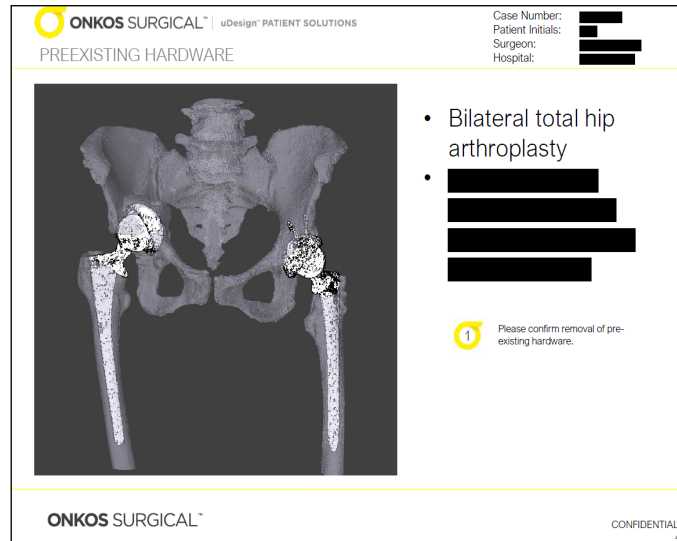

Figure 1: Example in situ hardware section of surgical plan.
1. Incise the patient and expose the surgical site according to the surgical plan/ surgical approach (Figure 1).